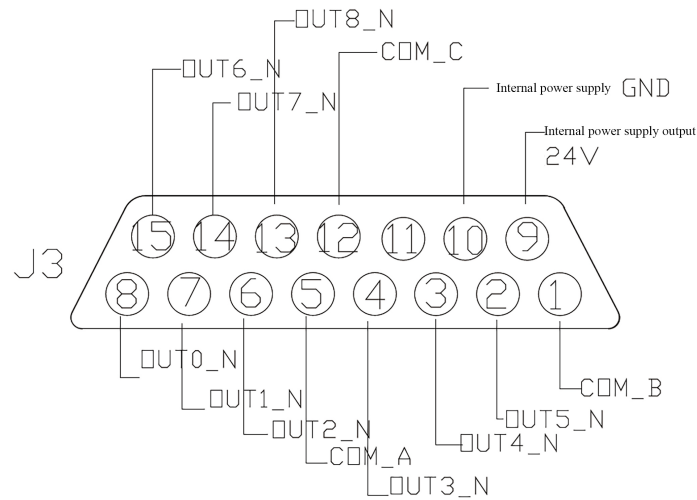

Figure 2
- (1) J3 interface DB15 male pin definition (shown in Figure 2)